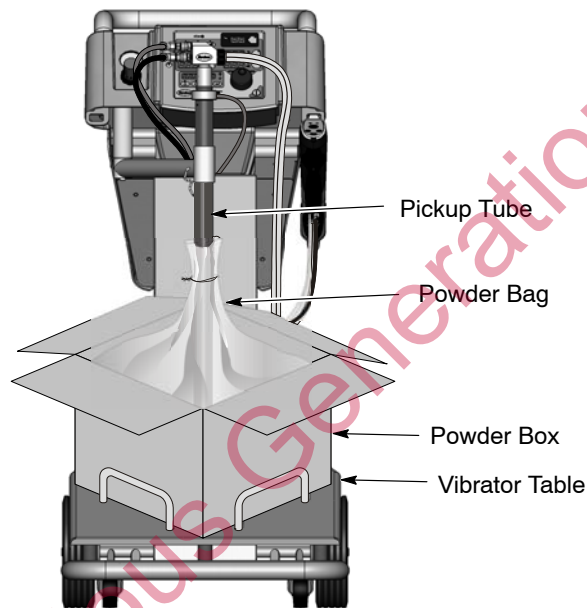

Figure 4-2 Powder Box Installation
2. See Figure 4-2. Place a box of powder on the vibrator table.